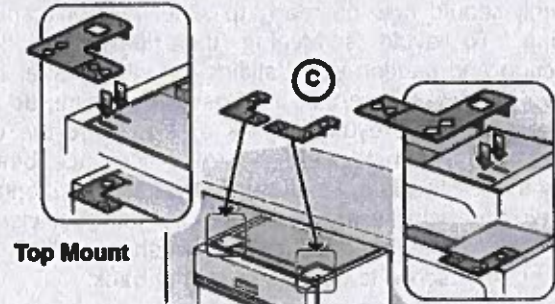

Figure 17
**Top Mount** is used for countertops made of wood or other materials that can be easily drilled. Orient the mounting brackets as shown in Figure 17, and position the two small tabs on the mounting brackets over the two slots on the dishwasher's front corners. Push the mounting brackets down firmly to insert the tabs into the slots.